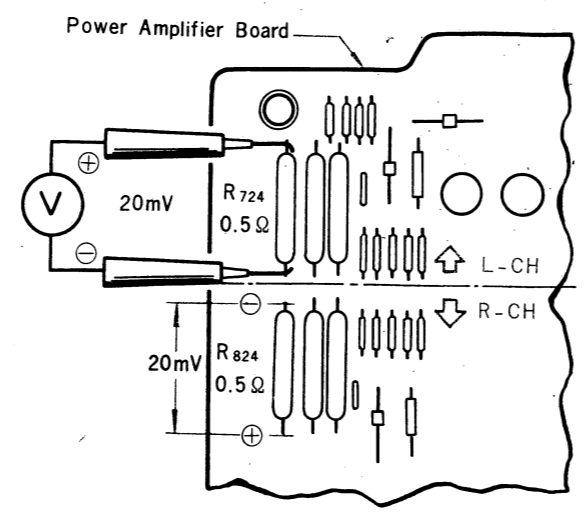

Fig. 4-6 Emitter Voltage Measurement of Power Transistors
- Connect the dc voltmeter across the emitter resistor R724 (0.5 ohm) as shown in Fig. 4-6.
Caution: To avoid accidental power transistor damage, increase the ac line voltage gradually, using the variable transformer, while measuring the voltage drop across the emitter resistor R724 (0.5 ohm). Be sure that the reading does not exceed 20 mV. See Fig. 4-6.